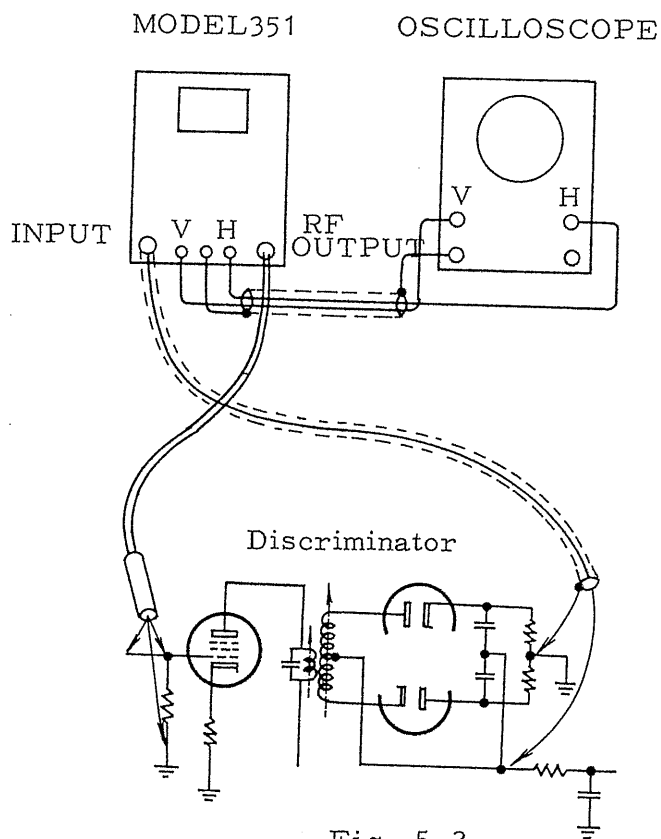

Fig. 5-2
(A) In this alignment, circuit arrangement is illustrated in Fig. 5-2.